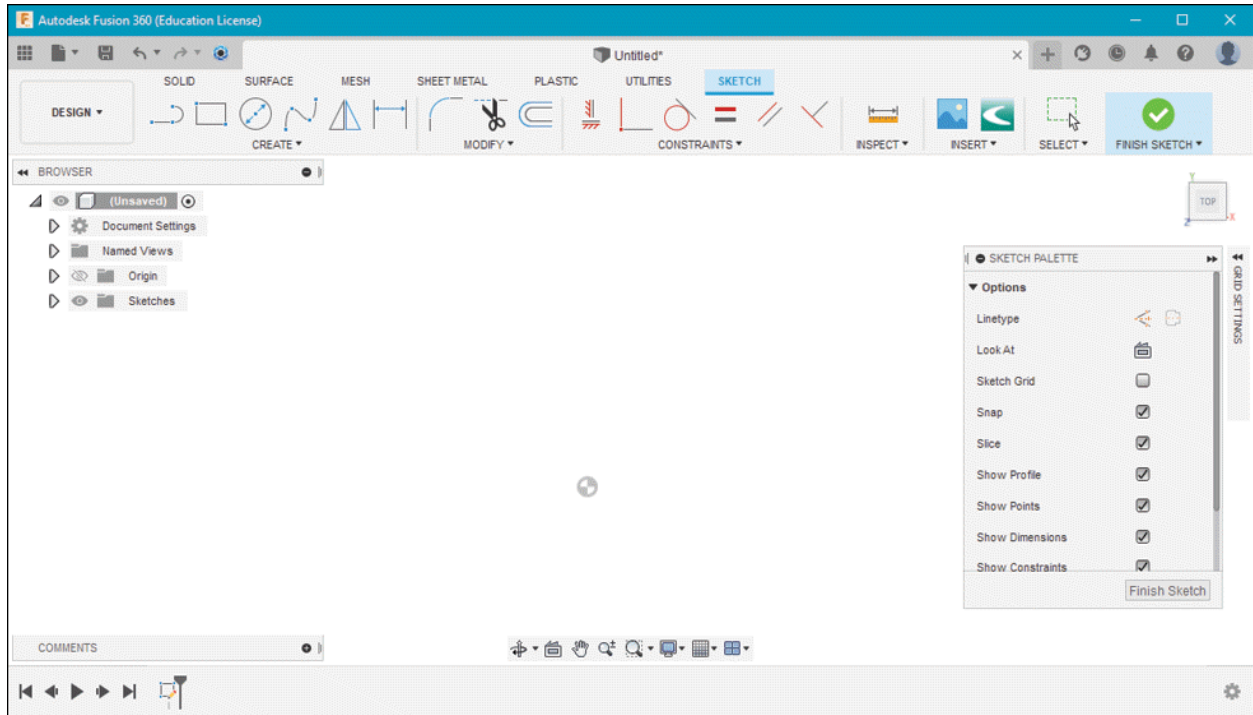

Figure-3. Sketching mode
- Click on desired plane from the canvas screen. The selected plane will become parallel to the screen and act as current sketching plane. Also, the tools to create sketch will be displayed in **SKETCH** contextual tab in the **Toolbar**; refer to Figure-3. Now, we are ready to draw sketch on the selected plane.